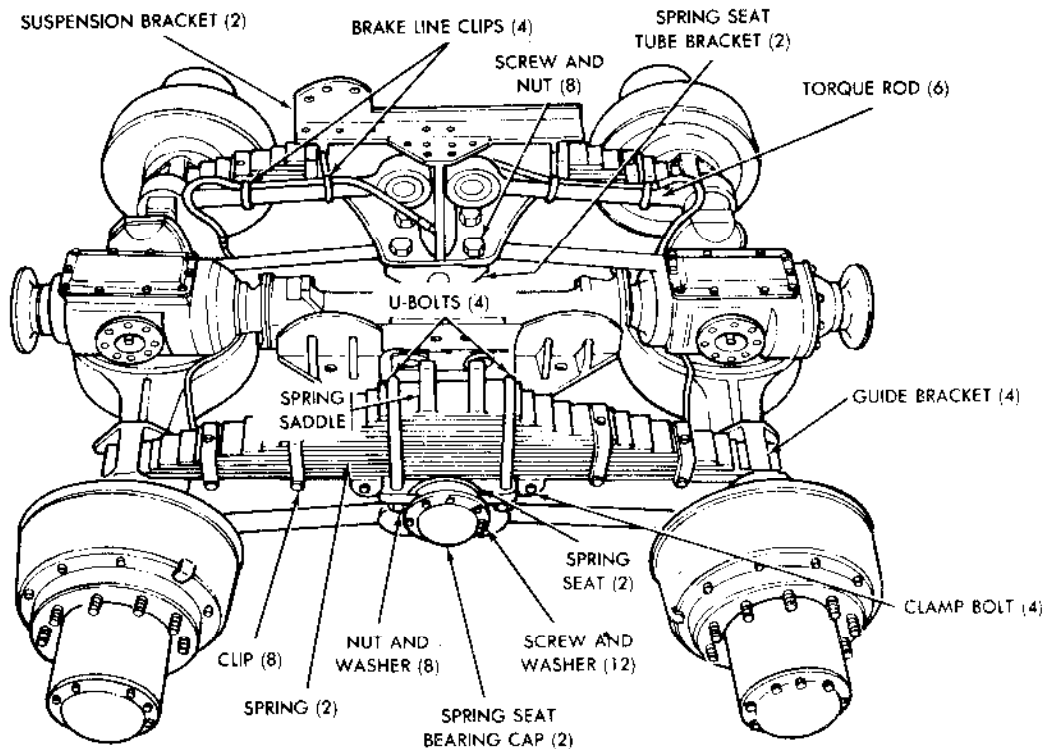

Figure 2-174. Rear Suspension System.
**2-184. General.** Two identical rear axle assemblies, mounted in tandem, are included in the rear suspension system (fig. 2-174). The rear axle assembly is a hypoid, double-reduction, single-speed type. Three identical torque rod assemblies, two at the right end of the axle and one at the left end of the axle, connect each rear axle assembly to the rear suspension brackets. These torque rods not only maintain the correct relative positions of the rear axle assemblies,
but also transmit driving and braking forces from the axles to the frame. A differential and carrier assembly, mounted at the top center of the axle housing transmits power from the transfer-to-forward-rear-axle and forward-rear-axle-to-rear-axle propeller shafts (fig. 2-174) to the left and right drive shafts inside the axle housing.
(1) Remove wheels from both rear axles to provide access to spring seats to be removed. Support axles with blocks or jack stands.
(2) Place jack under cross tube connecting left and right spring seats. Raise jack sufficient to remove load from springs.
(3) Remove clamp bolts from front and rear ends of spring seats (fig. 2-174).
(4) Remove four nuts and washers from U-bolts and remove U-bolts.
(5) Remove six screws and washers, securing spring seat bearing cap and remove cap and gasket (fig. 2-174).
(6) Remove outer bearing adjusting nut, washer and inner O-bearing, adjusting nut from cross tube.
(7) Pull spring seat and bearings from cross tube.
(8) Remove dust seal washer, two dust seals, wiper retainer, wiper; grease seal and two bearings and caps from spring seat.
(9) Clean all parts in dry cleaning solvent. Type II (SD2) Fed. Spec. PP-680. Wire brush or buff if required.
(10) Inspect bearing and cups for pitting and wear. (Place special emphasis on inner bearing and cup.) Replace, if required.